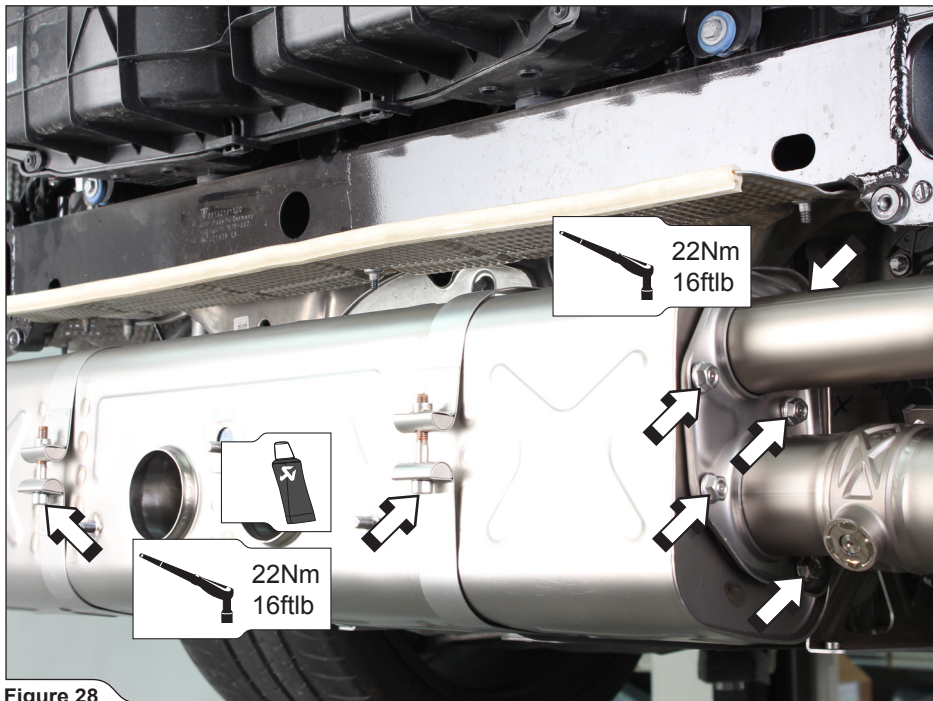

Figure 28
15. Align and center Akrapovič central muffler in respect to the vehicle and tighten the muffler clamps and flanges to the specified torques on both sides of the muffler (**Figure 28**).